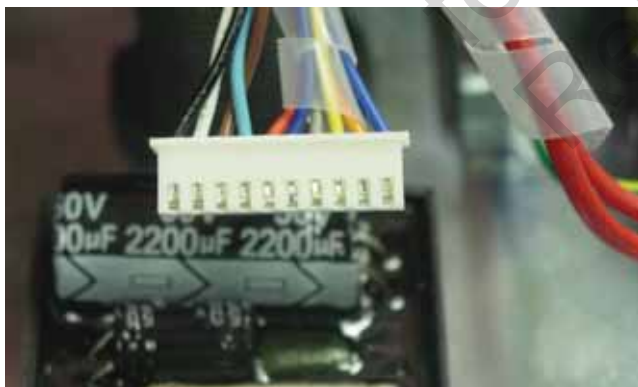

Figure 48
3. If oil level is correct and the float is not stuck, remove the control panel and disconnect the 10-pin connector (Figure 48).